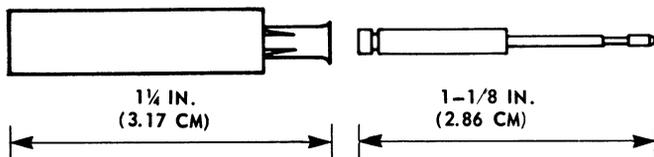

Fig. 10 – Diode Pin Extractor Tool
3.34 The pin extractor, shown in Fig. 10, must be used to remove the diode pin from the selector block. Pliers *must not* be used to extract the diode pin.